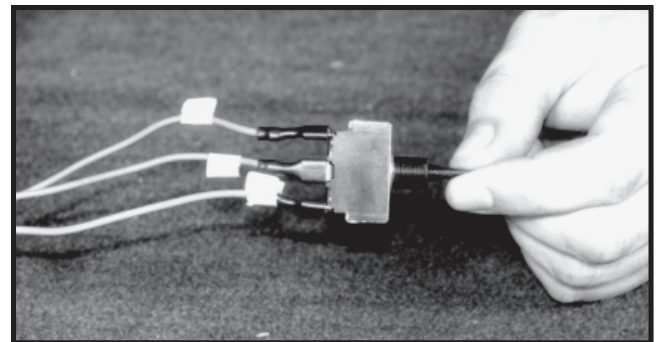

Fig. 14
- Step 12: Locate the wires on the wire assemble; 1. One labeled **up**; 2. One labeled **down**; 3. One labeled **12V**. Position the switch so the terminal posts are on the side nearest you. Connect the **down** wire terminal to the **top** post. Connect the 12V wire terminal to the **center** post. Connect the **up** wire terminal to the **bottom** post (Fig. 14).